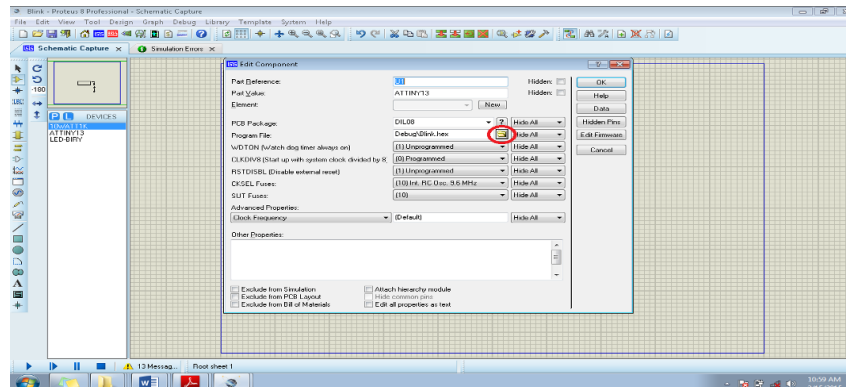

FIGURE 1. Specifying the hex file that will run on the microprocessor
- Right click the ATtiny13 microcontroller and select edit properties (**Figure 1**). The browse for the hex file created with Atmel studio. Note: The hex file is usually located in the debug folder or in the release folder depending on how you compiled your program.